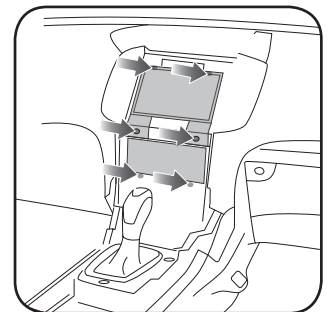

Fig. 1.6
6. Remove four (4) 7mm screws holding the screen. Unplug and remove the OEM screen. (Fig. 1.6)
7. Remove two (2) screws holding the radio. Unplug and remove the OEM radio. (Fig. 1.6)